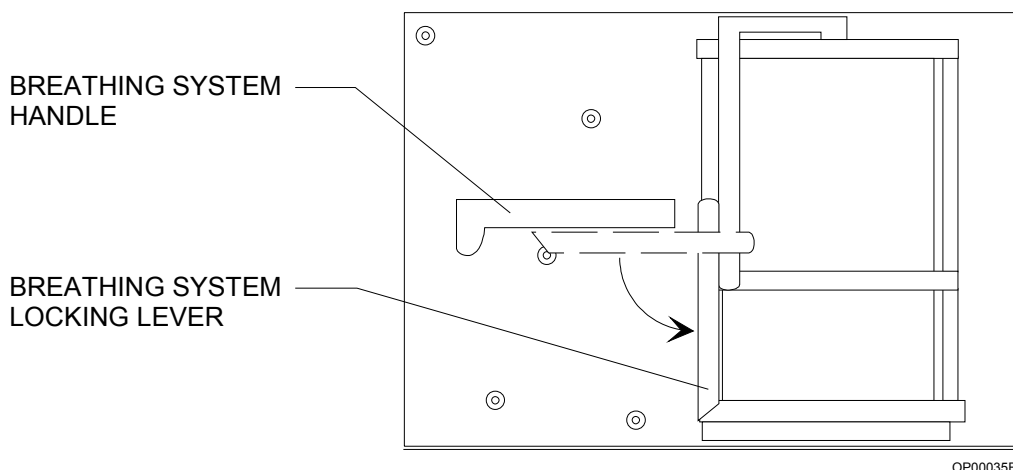

Figure 10-1. Location of Breathing System Locking Lever
3. Swing the breathing system locking lever to its central (unlock) position. See Figure 10-1.